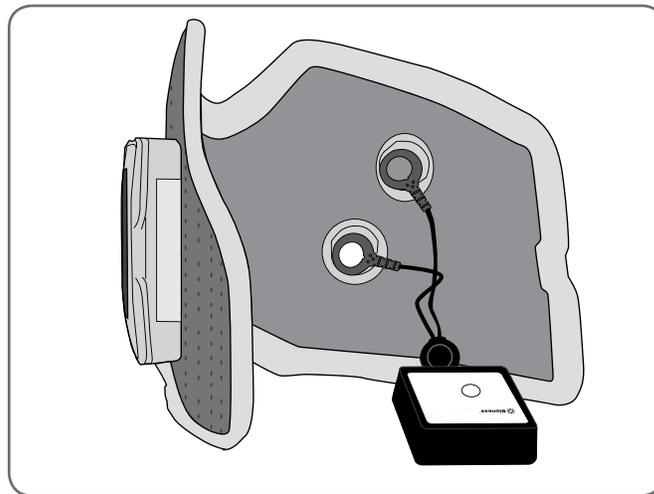

Figure 15-2: L300 Tester connected to the Regular L300 FS Cuff.
1. Connect the L300 Tester to the FS Cuff. See Figure 15-2.